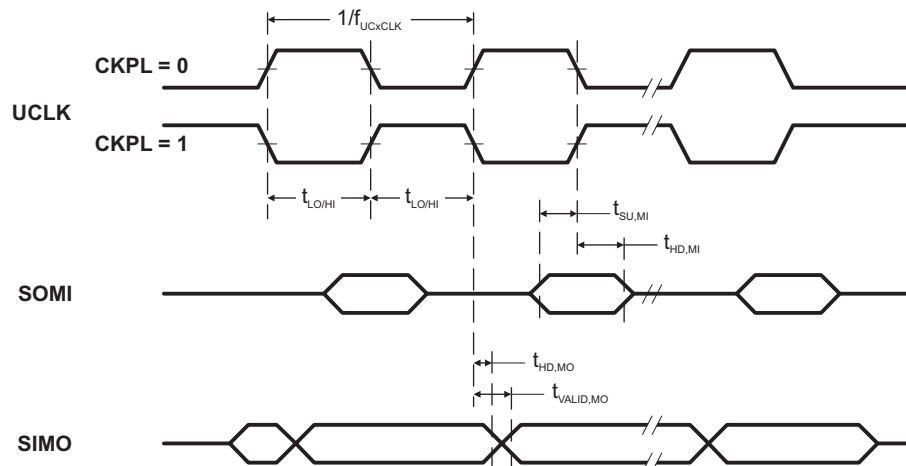

Figure 11. SPI Master Mode, CKPH = 0
(see Figure 11 and)
- (2) Specifies the time to drive the next valid data to the SIMO output after the output changing UCLK clock edge. See the timing diagrams in Figure 11 and .
- (3) Specifies how long data on the SIMO output is valid after the output changing UCLK clock edge. Negative values indicate that the data on the SIMO output can become invalid before the output changing clock edge observed on UCLK. See the timing diagrams in Figure 11 and .